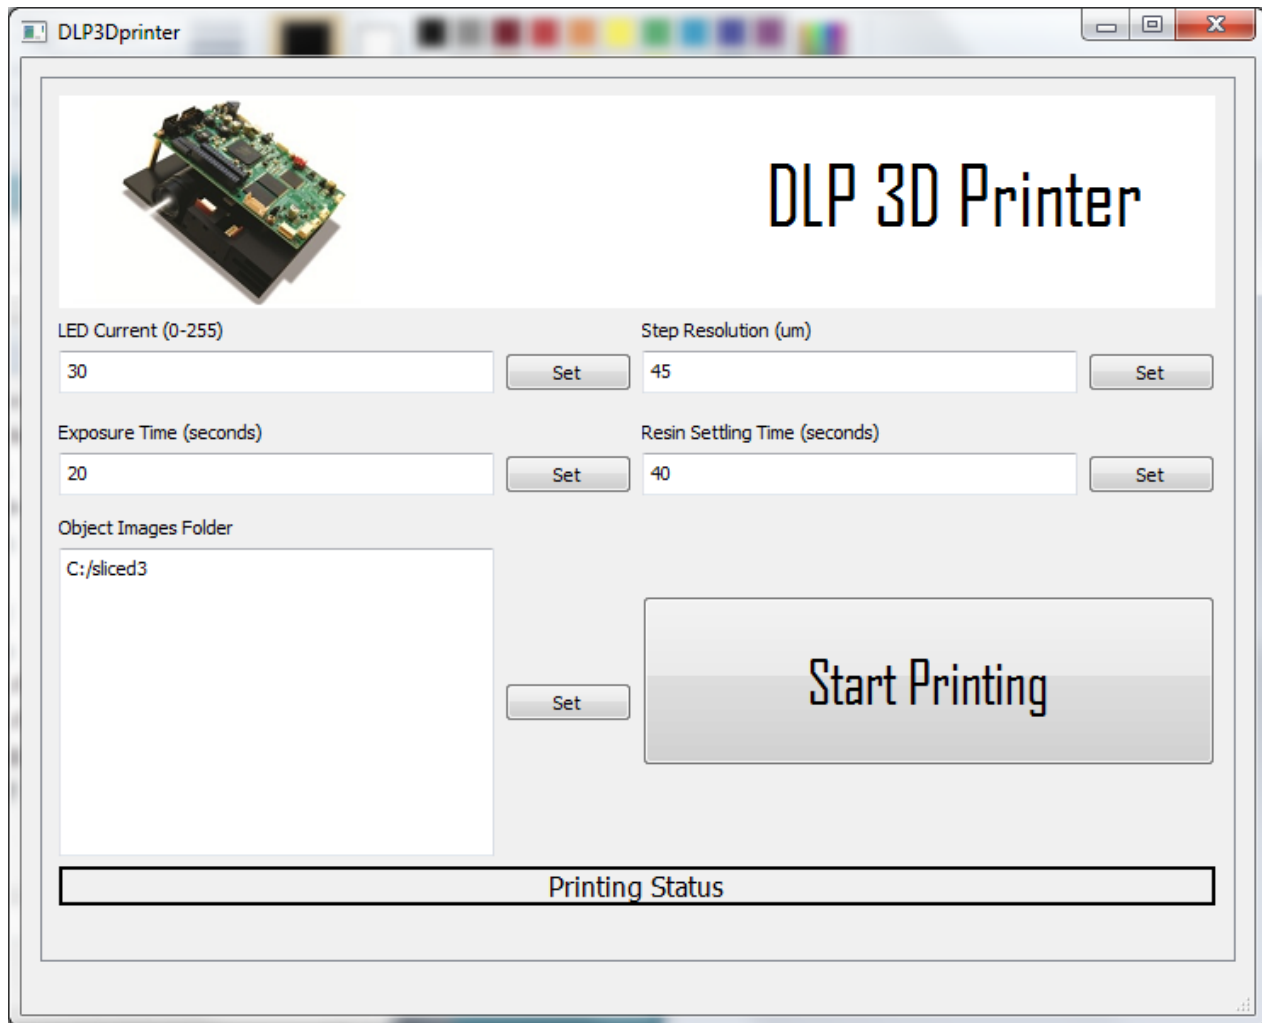

Figure 3-20. Printer Settings Check Before Sending Images To The Printer
4. After the layer image folder has been selected, double check the settings for the print. The GUI should look like Figure 3-20.